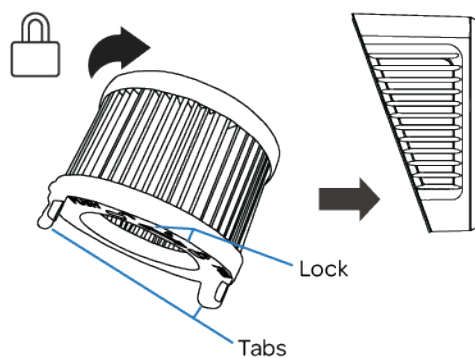

Figure 14
6. Lock the new HEPA Filter into place by firmly holding the (2) black tabs on the filter and turn to the right until secure. (Figure 14)